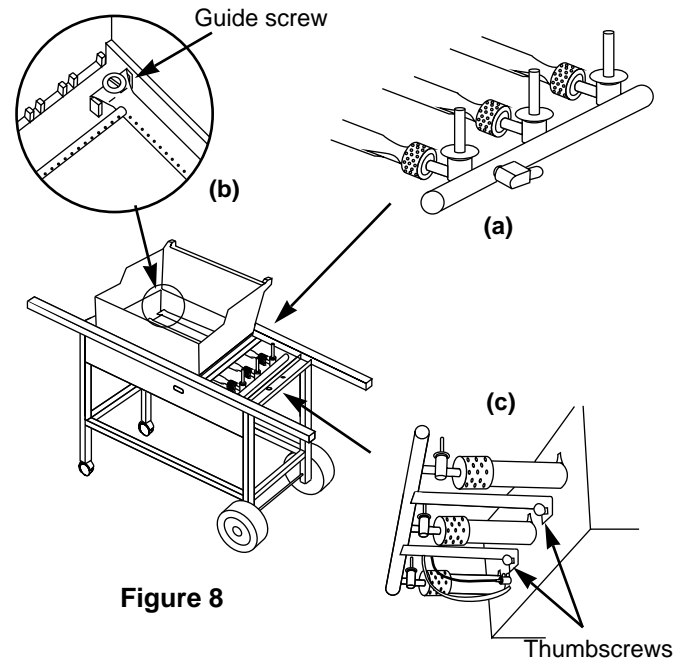

Figure 8
- Do the valves fit into the ends of the burners? Figure 8 (a).
- Are the ends of the burners under the washers at the left rear and left front of the cooking box? The screws are only guides. Do not tighten. Figure 8 (b).
- Are the thumb screws under the burner assembly hand tight? Do not tighten with pliers. Figure 8 (c).